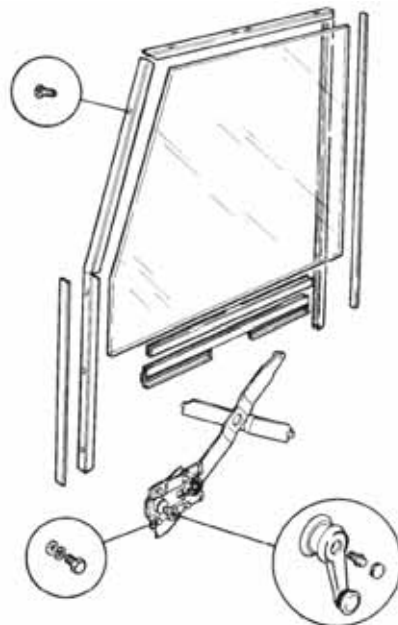

Figure 3 Front Door - Exploded View
11. Door Windows. The doors are provided with wind-up windows (Figure 3) and a window regulator is provided to vary the height of the glass which slides vertically in two weatherproof channels. A weatherstrip is installed in the body around the door opening. When closed, the door butts against the weatherstrip, effectively sealing against the body.